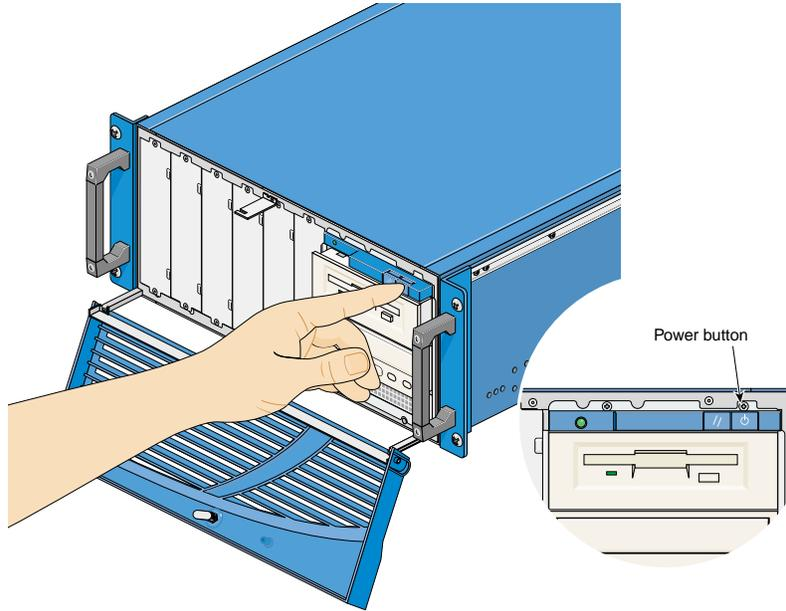

Figure 2 Powering Off the Node
4. Power off the node; refer to Figure 2 for the button location.